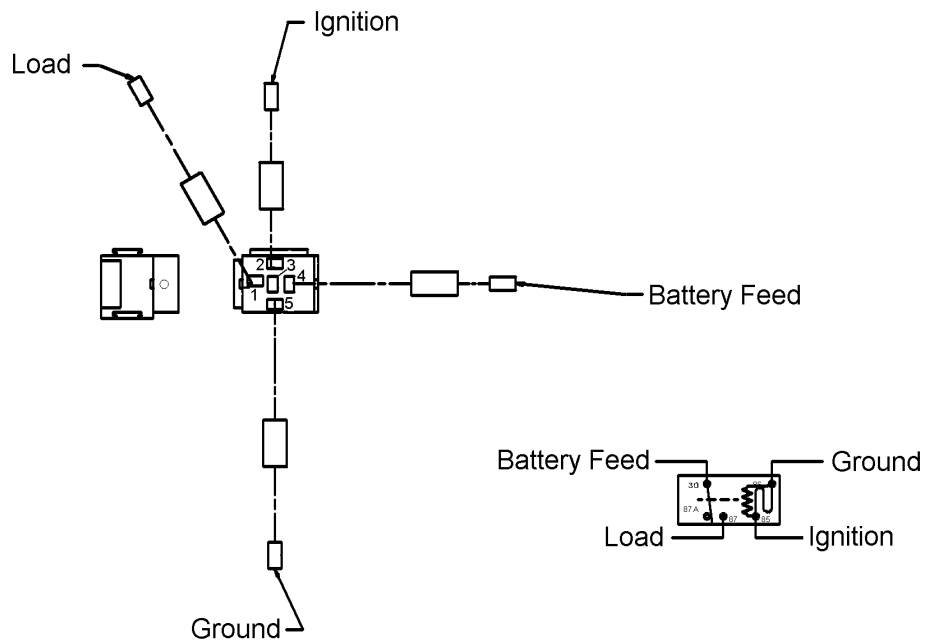

Figure 3 Relay Harness
6. Cut off the terminal from circuit 70, strip off 1/2 inch of insulation and splice to harness 2027580C91 wire labeled battery feed, relay terminal 3 (Figure 3).
7. Cut off the terminal from circuit 70A, strip off 1/2 inch of insulation and splice to harness 2027580C91 wire labeled load, relay terminal 5 (Figure 3).
8. Splice a suitable length of 16AWG wire to harness 2027580C91 wire labeled ground (relay terminal 2). Connect the other end, with a ring terminal, to a good ground location on the instrument panel, circuit 90-GA (Figure 3).